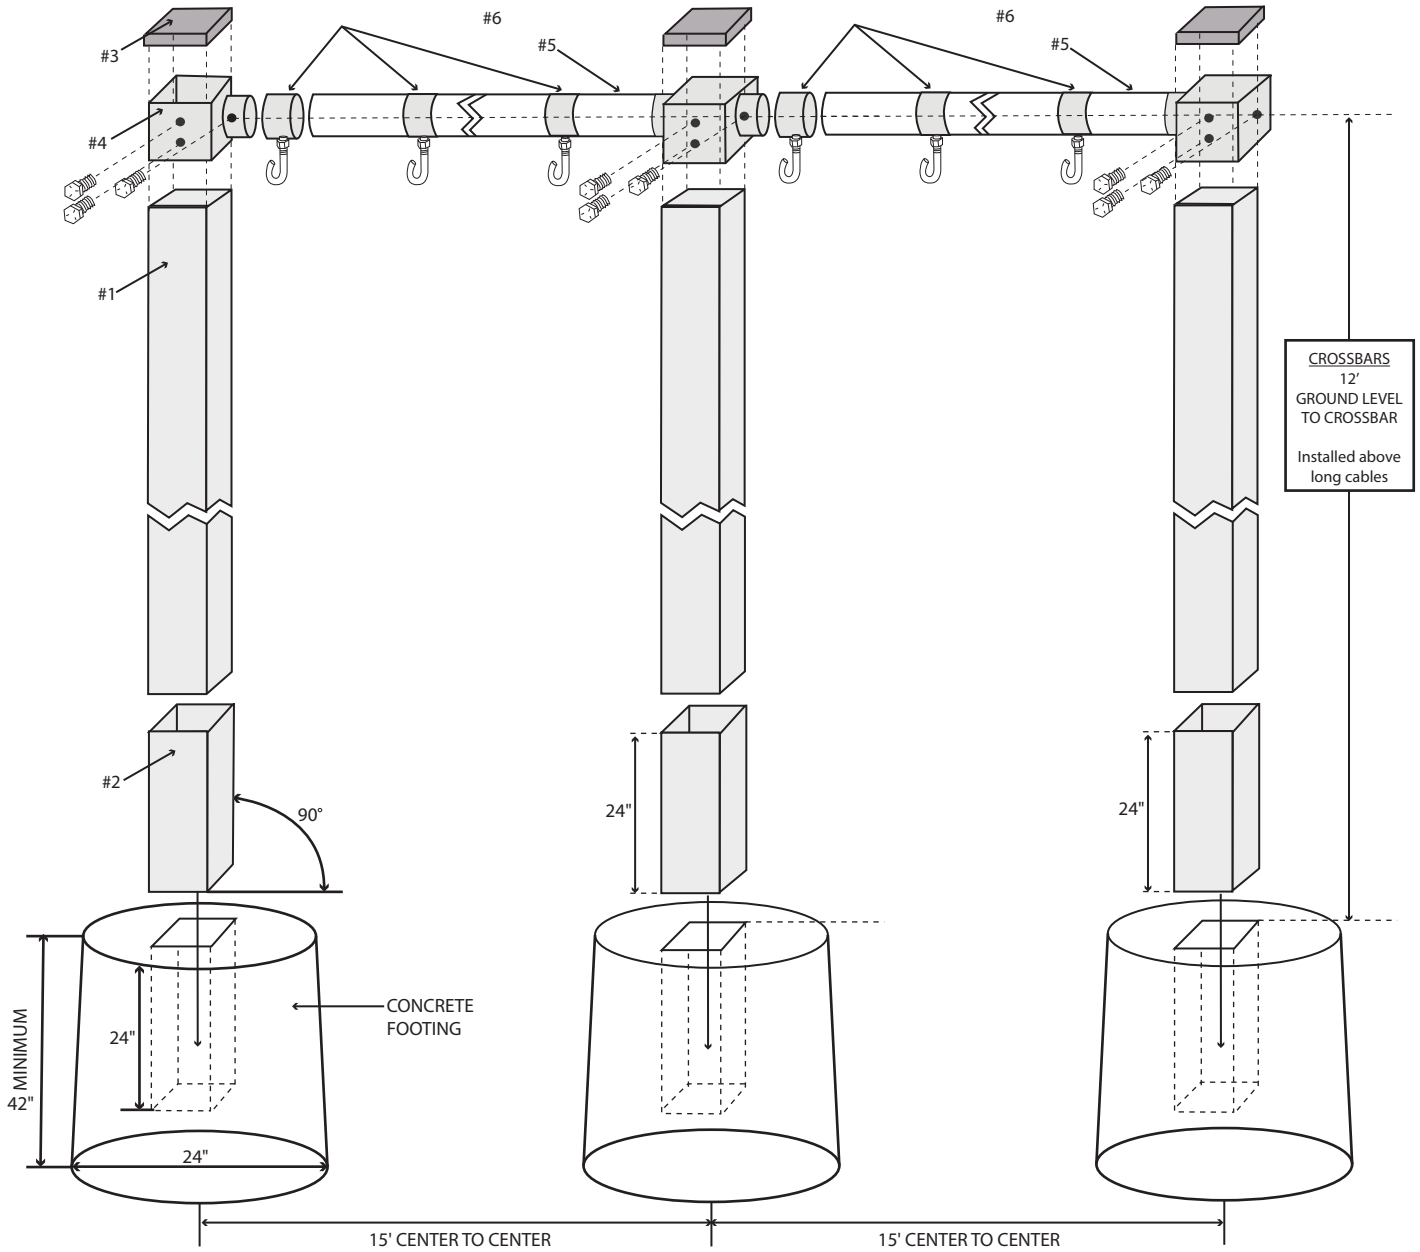

FIGURE 4 - TUNNEL ATTACHMENT WITH LONG CABLES
4. Starting at one corner attach the top ropes of the net to the cables with carabiner clips, spaced every 3' per Figure 4.